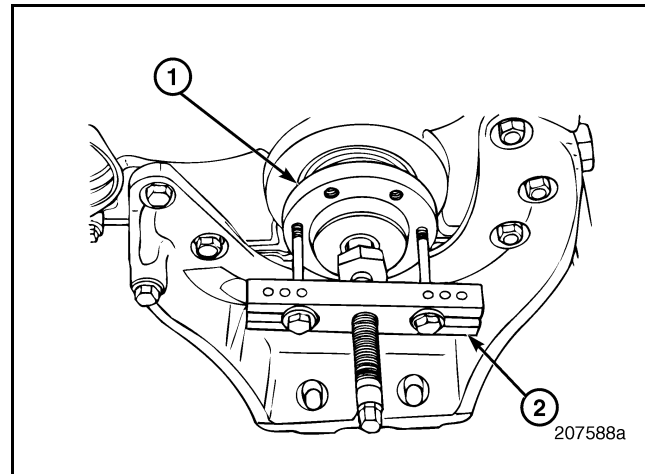

Figure 108 — Crankshaft Hub Removal
2. Remove vibration damper (1) and fan belt drive pulley (2) together.
3. Using a suitable wrench, remove crankshaft hub capscrew (4).
4. Using a suitable puller such as J 24420-C, remove the crankshaft hub. Refer to Figure 108.